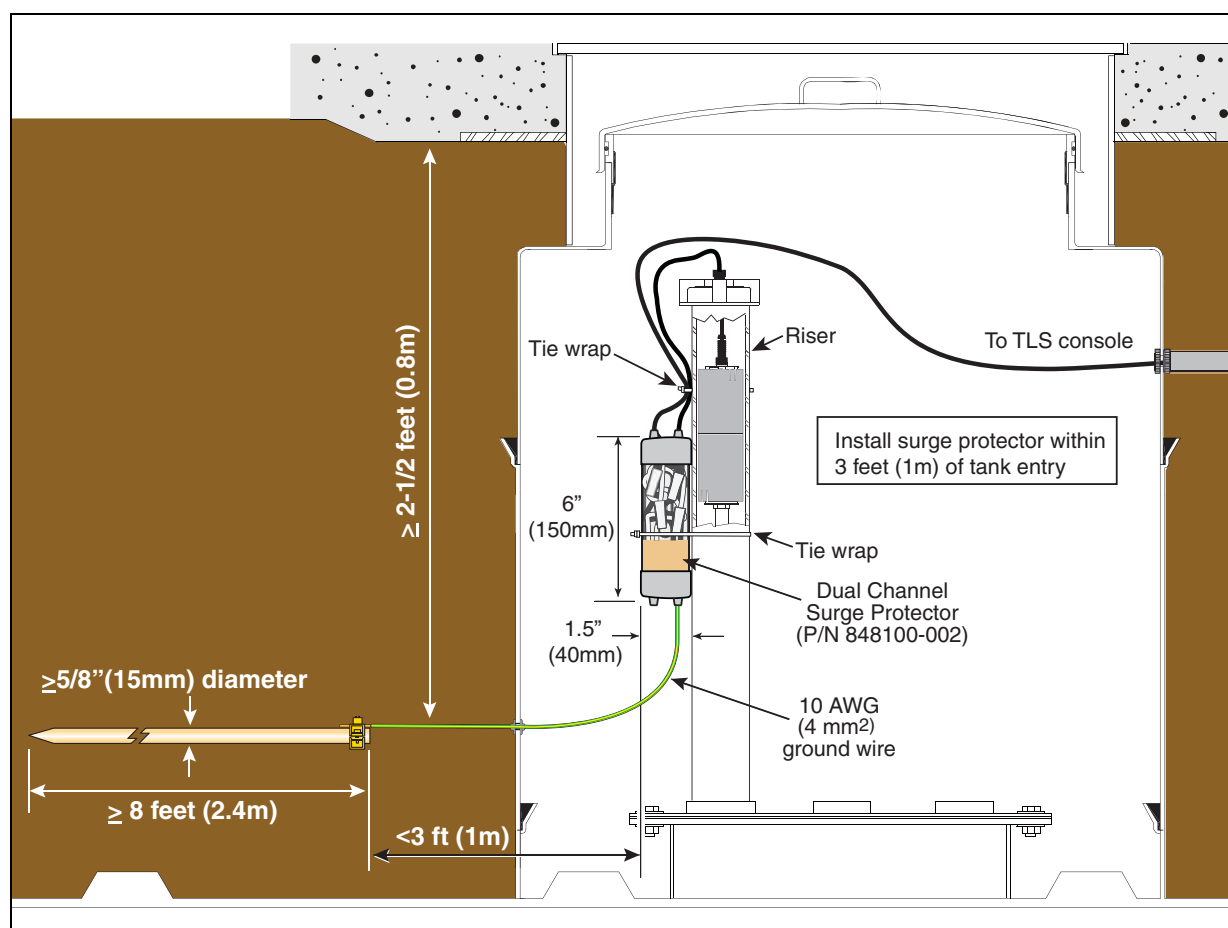
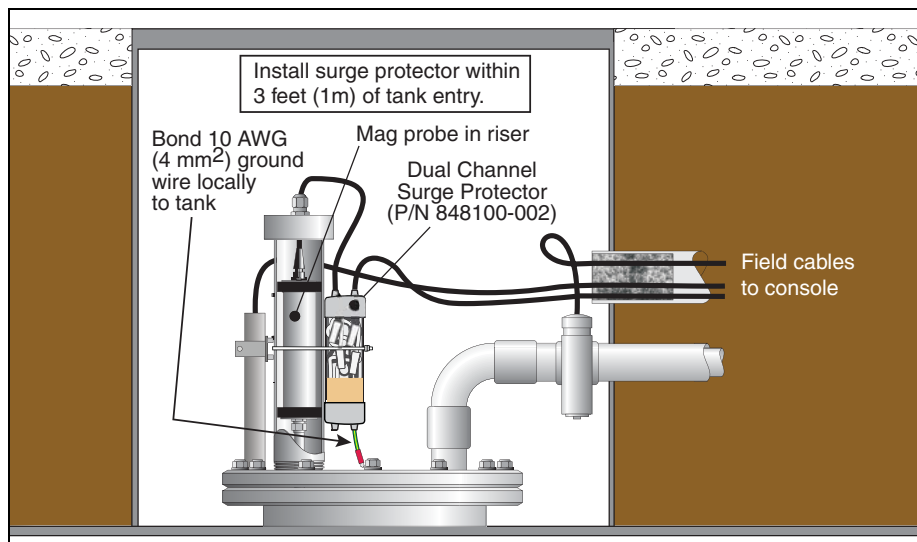
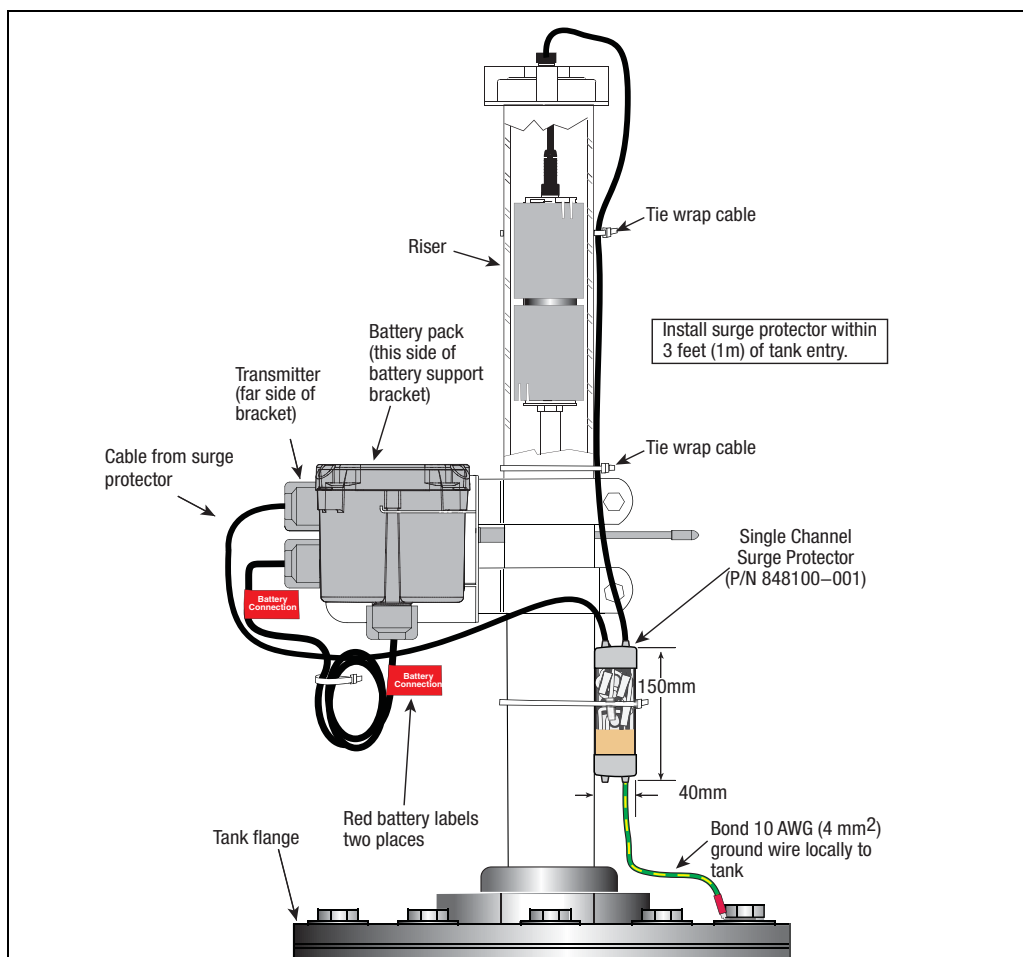
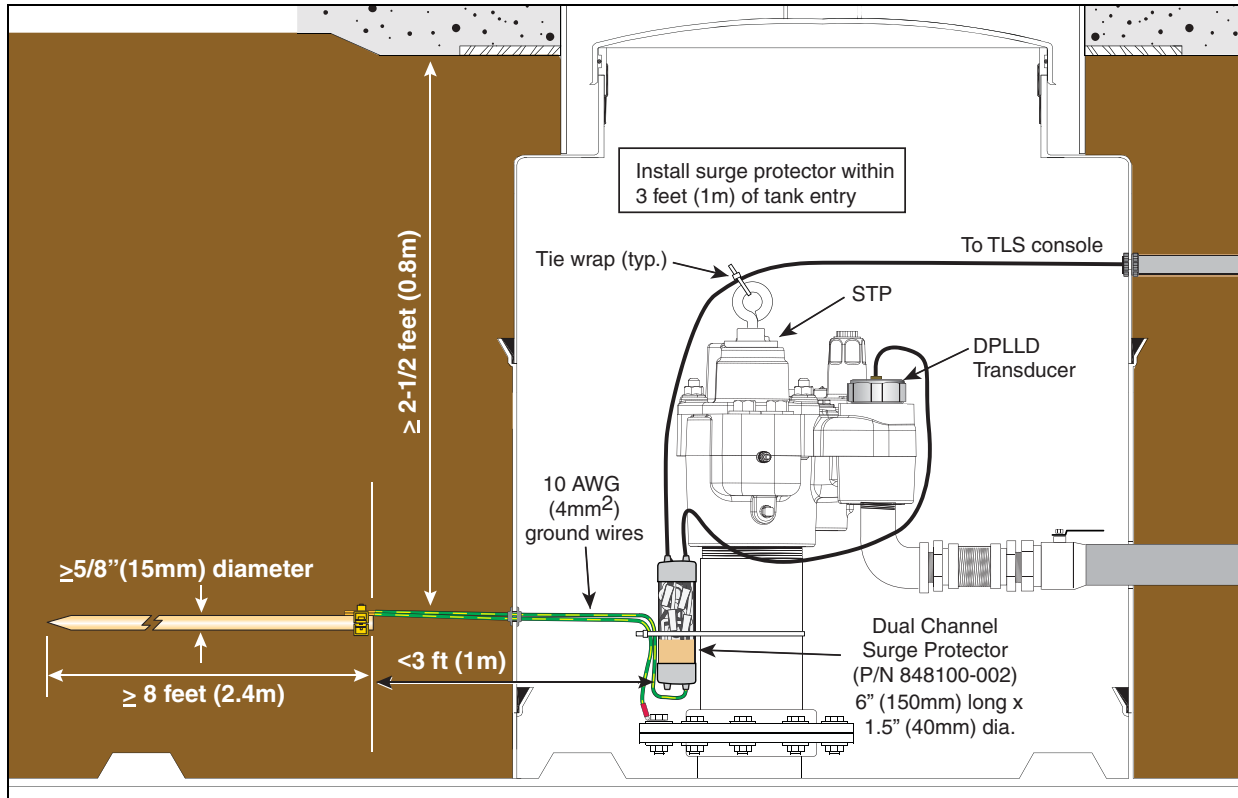

Figure 16. Example Wired Mag Probe With Dual Channel Surge Protection Installed - Fiberglass Tank
Figure 17. Example Wired Mag Probe With Dual Channel Surge Protection Installed - Steel Tank
Figure 18. Example Wireless Mag Probe With Single Channel Surge Protection Installed - Steel Tank
Figure 19. Example Wired DPLLD Transducer With Dual Channel Surge Protection Installed - Fiberglass Tank
9. Wait at least five minutes, then use the large cable tie to mount the surge protector to the riser pipe or probe canister as applicable and connect green/yellow ground wire from surge protector to an appropriate ground (see Figure 16 through Figure 18).
Example surge protection installations of a wired mag probe in a fiberglass tank and in a steel tank are shown in Figure 16 and Figure 17 respectively. An example surge protection installation of a wireless mag probe in an above ground steel tank is shown in Figure 18.
Example surge protection installations of a wired DPLLD transducer in a fiberglass tank and in a steel tank are shown in Figure 18 and Figure 19 respectively.